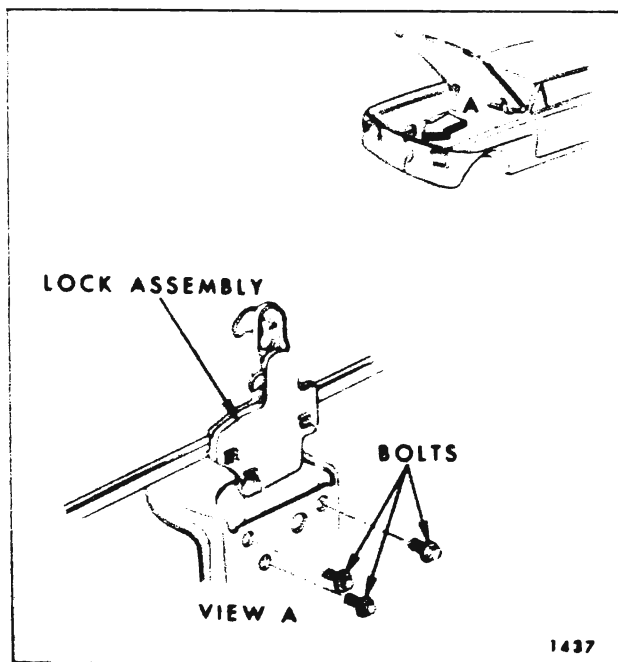

Fig. 5-22—Front Compartment Lid Lock
2. Remove screws (Fig. 5-22) securing lock to lid lock support and remove lock assembly.